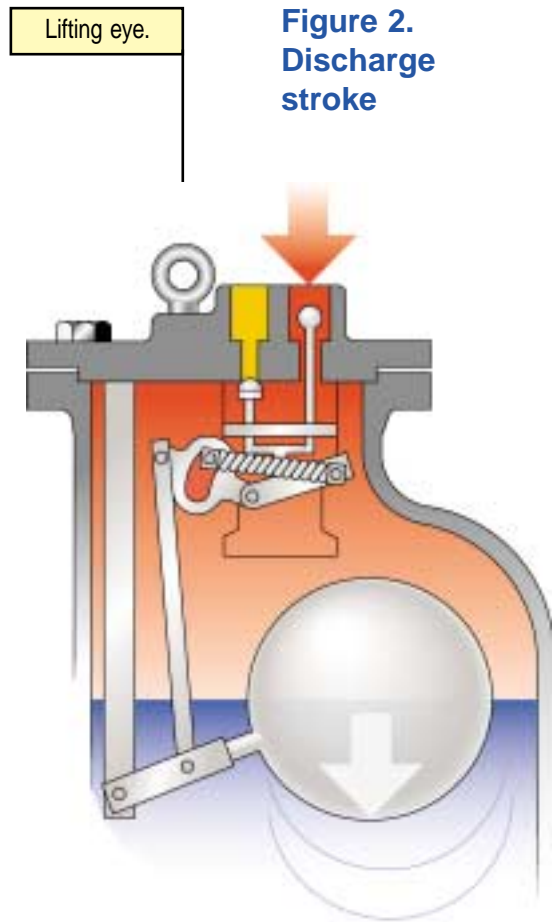

Figure 2.
- 2** Residual non-condensibles in the body escape through the open exhaust valve, Fig 1. As the chamber fills, the valve change over linkage is engaged opening the motive inlet valve and closing the exhaust valve, Fig 2. This snap action linkage ensures a rapid change from filling to pumping stroke.